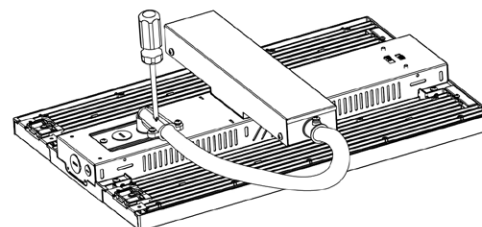

Figure 30
6. Knock out 1/2 hole of the cover plate, pass the hose through the elbow, and lock it on the cover plate. (see Fig. 30)